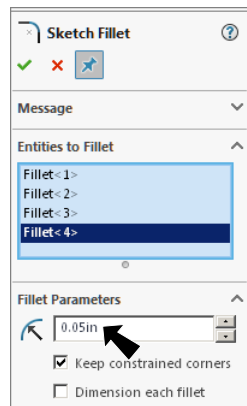

Fig. 4
Step 8. In the Sketch Fillet Property Manager set: under Fillet Parameters, **Fig. 4**